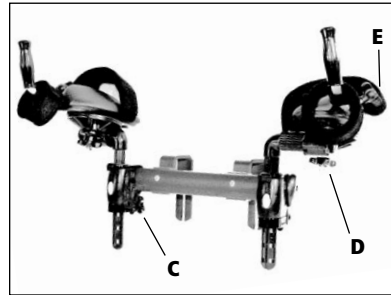

Figure 6
Installation K132 Arm Prompt Set (see Figure 6) Loosen the clamp knob (C) and pull it down to free the curved metal piece. Slip the clamp over the oval tube of the Mounting Bracket with the main part of the clamp to the inside of the Mounting Bracket. Close the curved metal piece, pull the knob up and tighten it securely.